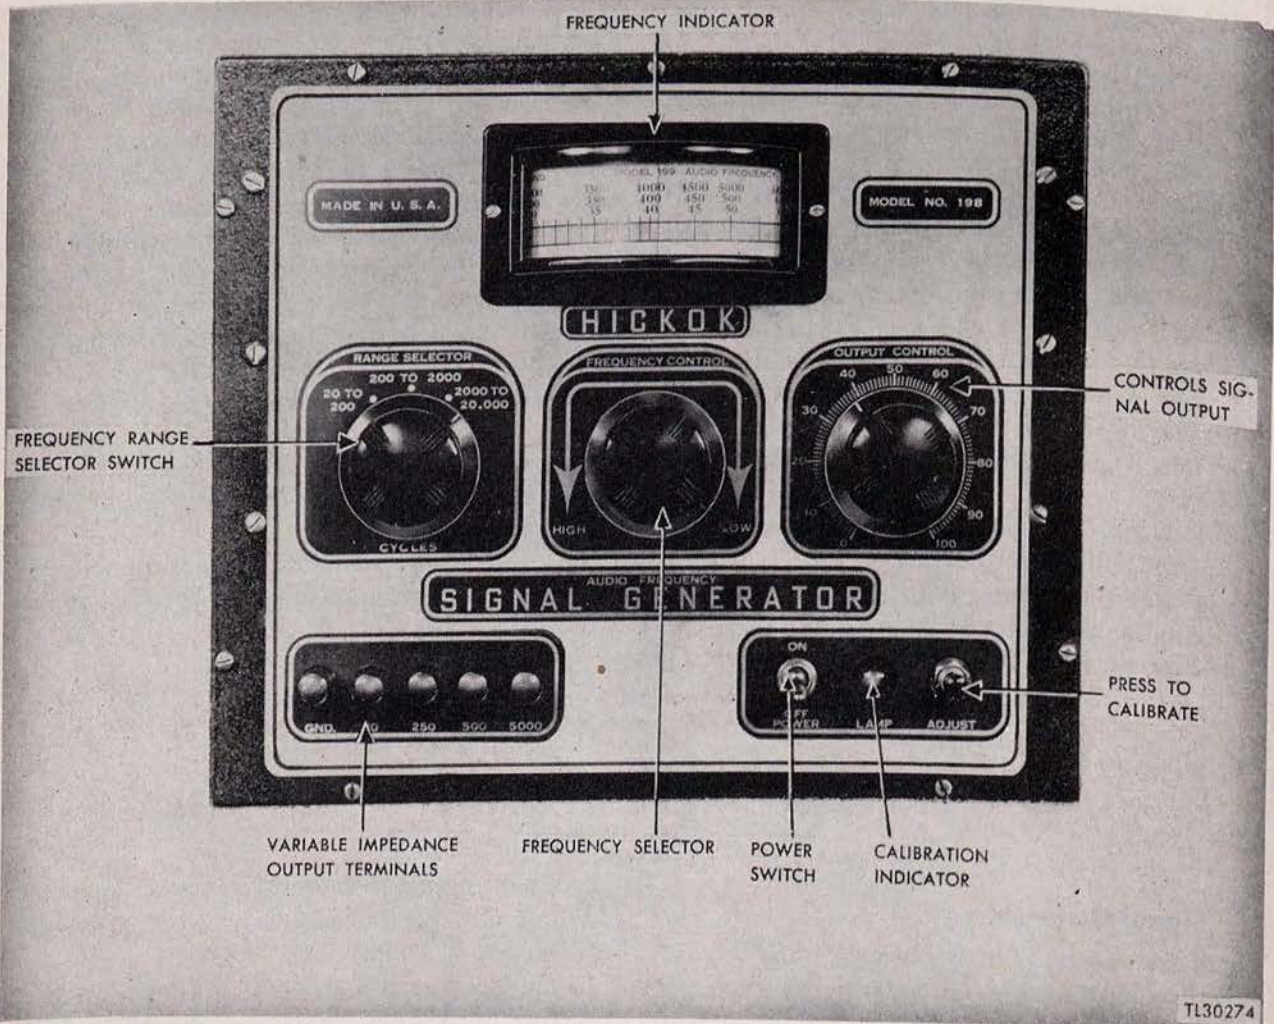

Figure 10. Hickok a-f signal generator, model 198.
b. RANGES. (1) 20 to 200 cycles.
(2) 200 to 2,000 cycles.
(3) 2,000 to 20,000 cycles.
c. LOCATION AND PURPOSE OF CONTROLS (fig. 10). (1) Switches. Across the center of this